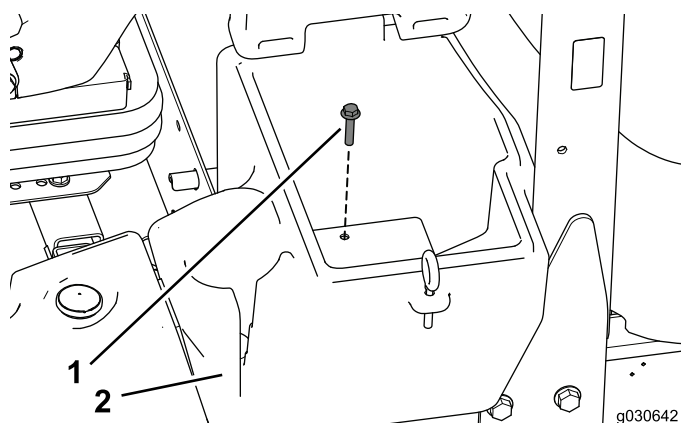

Figure 1
1. Remove and retain the bolt securing the storage compartment located on the left side of the machine (Figure 1).